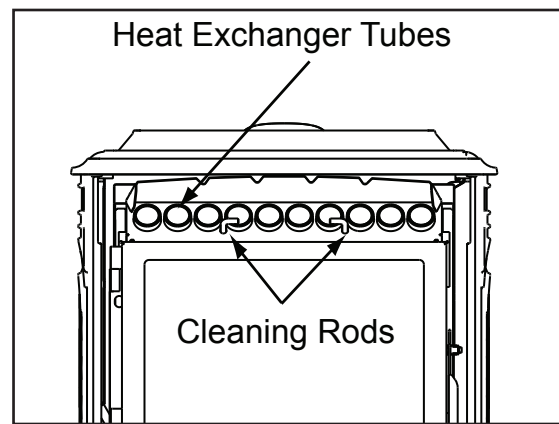

Figure 31.1
- Allow the appliance to completely cool down before pulling the cleaning rods. Turn the thermostat on and then immediately off to start the exhaust blower on its cycle time. It will pull fly ash out the exhaust instead of into the room. Open the cast hinged face to access the 2 cleaning rods. **Figure 31.1.**